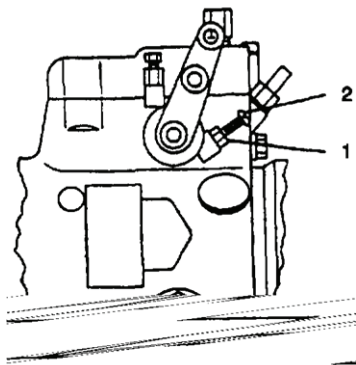

Figure 1. Fuel Injection Pump High Idle Speed Adjustment.
14. If above criteria is not met, adjust GCU (WP 0062, Figure 1, Item 3) (Adjustment).
8. Loosen jam nut (Figure 1, Item 1) and back out high idle stop screw (2) on fuel injection pump.
14. Loosen jam nut (Figure 1, Item 1), set 8th idle stop screw (2) to position recorded for Step 8, and tighten jam nut (1).
19. Set multimeter for DC volts and connect to terminals 11 and 12 of GCU (WP 0062, Figure 1, Item 3).